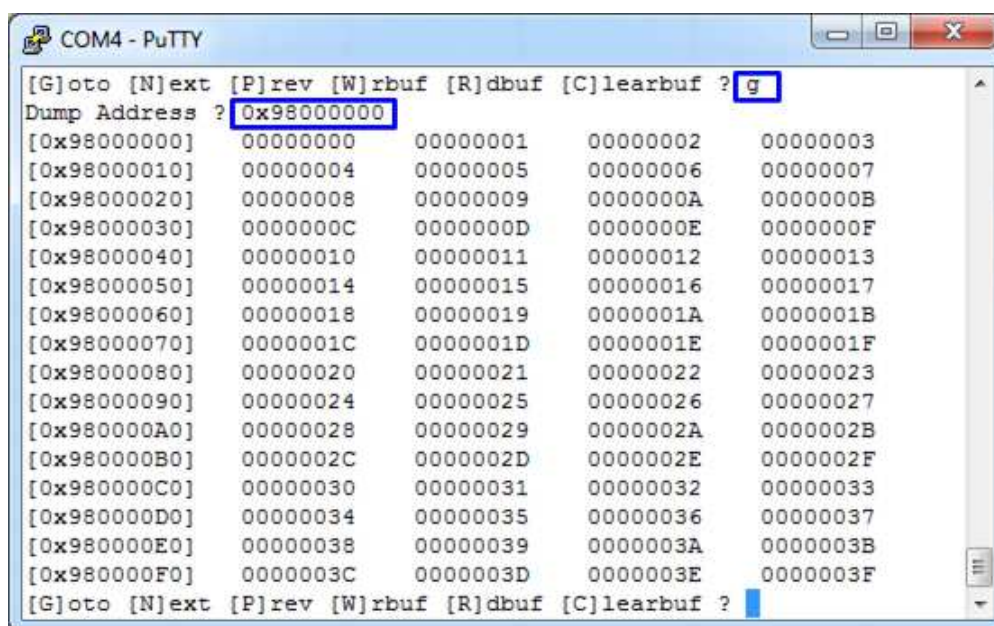

Figure 3-10 Goto submenu example
- 'G': this submenu is used for selecting read DDR address, as shown in Figure 3-10. The address can be input to be hex value by adding prefix "0x", and decimal value will be received with no any prefix.